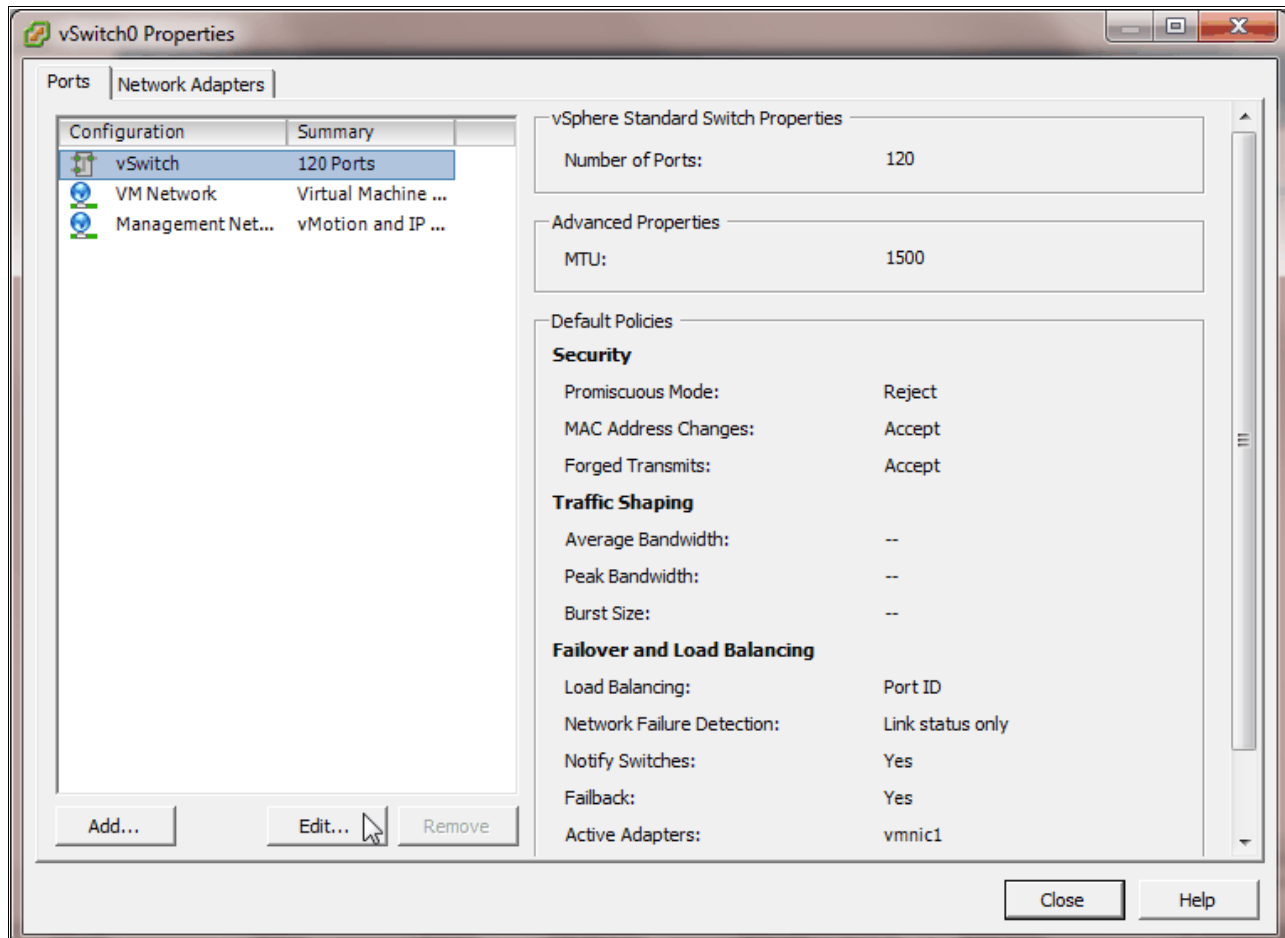

Figure 5-15 Editing vSwitch0 properties
3. Open the configuration page for vSwitch0 by clicking **Edit**, as shown in Figure 5-15. We want both vmnic0 and vmnic1 to be active adapters in a team.